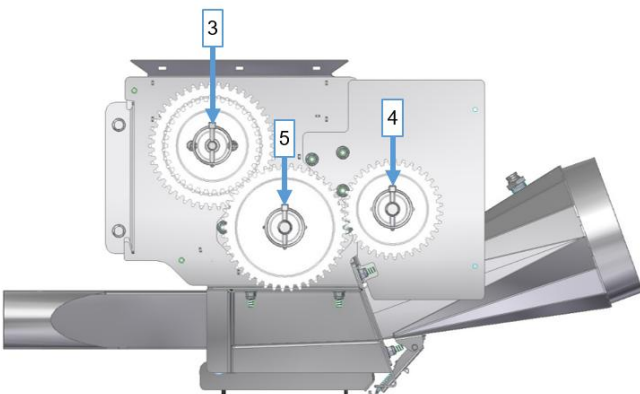
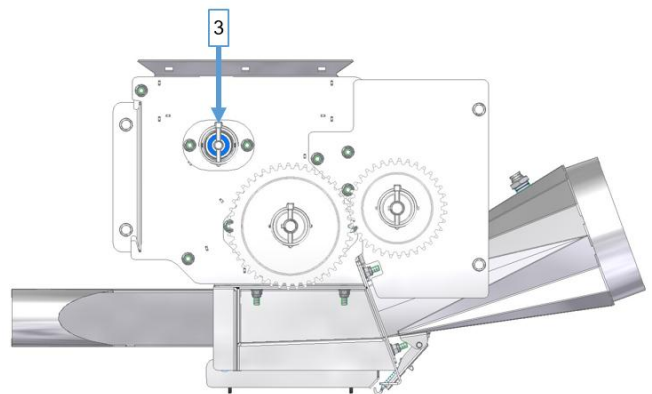

Figure 32
Figure 33
- The linch pin [3] that fastens the double gear wheel [3] on the agitator and the linch pin [4] for the seeding shaft drive are removed. (see Figure 32). Then the two gear wheels [3, 4] can be removed. The linch pin [3] for the agitator shaft can be reinstalled and the double gear wheel [3] must stay off. (see Figure 33).